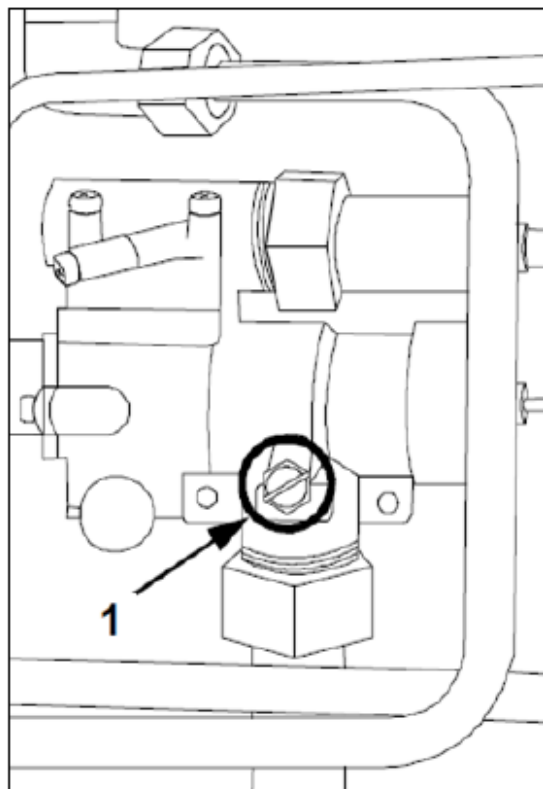

FIG.7
- 2) Loose the gas-tight screw of the safety valve (general tap) (FIG.7-Ref.1);
- 7) Fasten again the gas-tight screw of the safety valve (FIG.7-Ref.1);
- 8) Replace and screw back the right (DX) side panel of the oven;